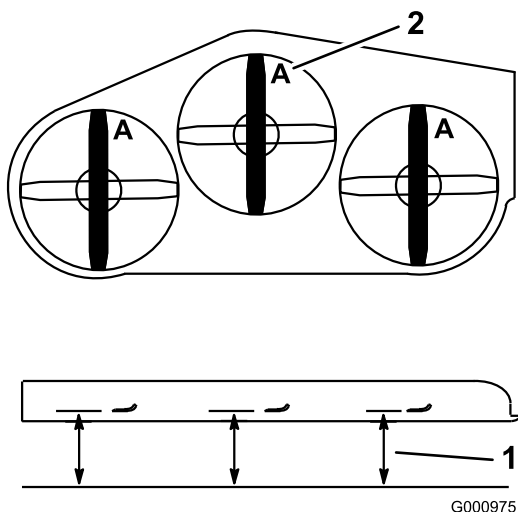

Figure 78
3. Rotate the blades until the ends face forward and backward (Figure 78).
4. Measure from a level surface to the cutting edge, position A, of the blades (Figure 78).